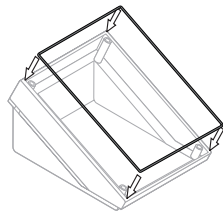

Fig. 6
- Place the sealing ring supplied in the ring groove of the housing base (Fig. 6)